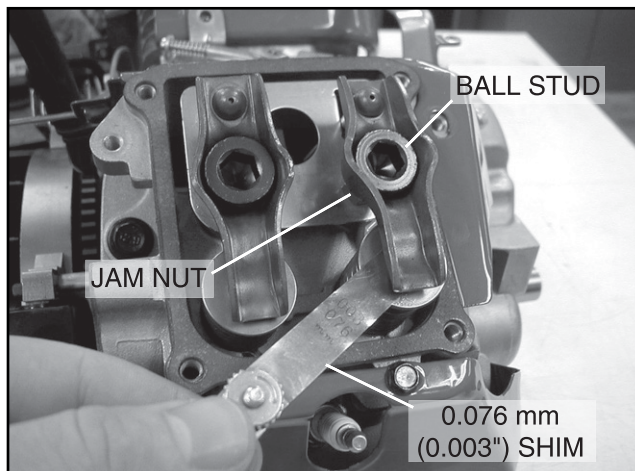

Figure 5-17. Adjust Valve Clearances
- a. Adjust rocker arms and check clearance (Figure 5-17).